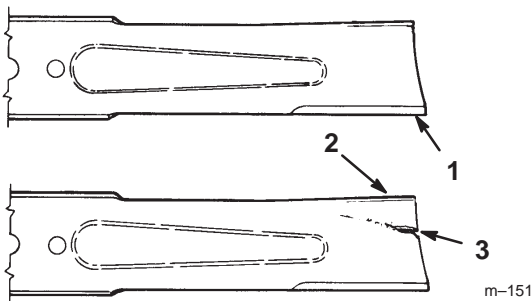

Figure 26
1. Inspect the cutting edges (Fig 26). If the edges are not sharp or have nicks, remove and sharpen the blades. Refer to Sharpening the Blades, page 27.
2. Inspect the blades, especially the curved area (Fig. 26). If you notice any damage, wear, or a slot forming in this area (item 3 in Fig. 26), immediately install a new blade.